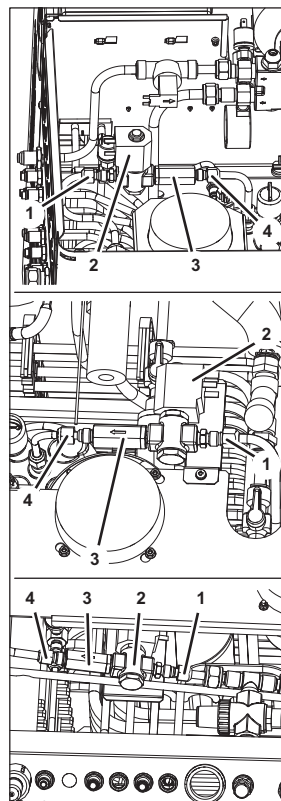
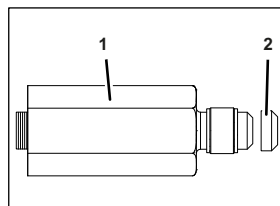

Figure 94
Figure 97
1. Release the coupling (Figure 94/1) on the solenoid valve (Figure 94/2).
2. Release the coupling (Figure 94/4) on the non-return valve (Figure 94/3).
3. Lift the solenoid valve (Figure 94/2) with non-return valve (Figure 94/3) out of the unit.
9. Attach the solenoid valve (Figure 94/2) and the non-return valve (Figure 94/3) using the couplings (Figure 94/1 and Figure 94/4).
4. Check the seals (Figure 97/2) for damage.
Replace any damaged seals (Figure 97/2).
5. Position the new non-return valve (Figure 97/1) within the unit.
6. Attach the solenoid valve (Figure 94/2) and the non-return valve (Figure 97/1) using the couplings (Figure 94/1 and Figure 94/4).